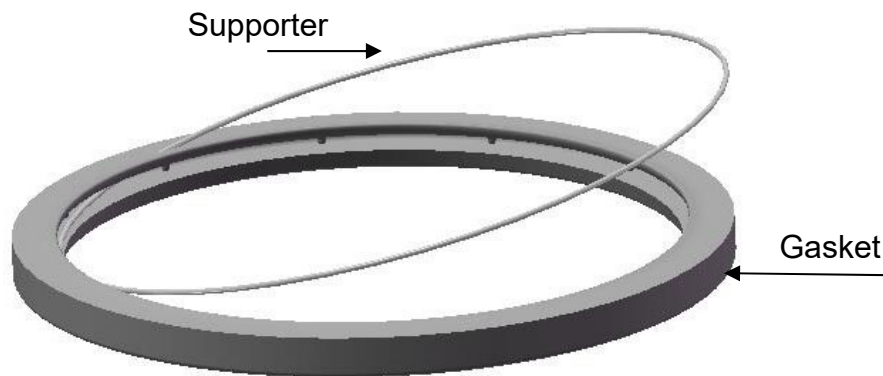

Figure 60
1. Remove the old gasket from the door, and then take out the gasket o-ring from the gasket. Install the gasket o-ring to the new gasket as Figure 60.